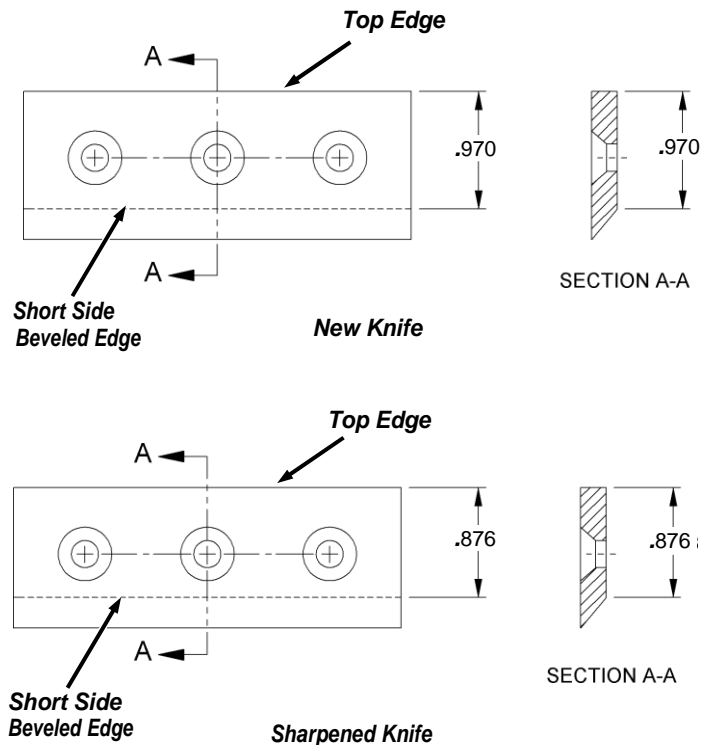

Figure 57
- A new Chipper Knife has .970" measurement between the short side bevel edge and the Knife Top Edge (**Figure 57 "New Knife"**).
- Once this measurement is below .876" (**Figure 57 "Sharpened Knife"**), or if you are unable to remove dents or gouges with these guidelines, replace the Knife.